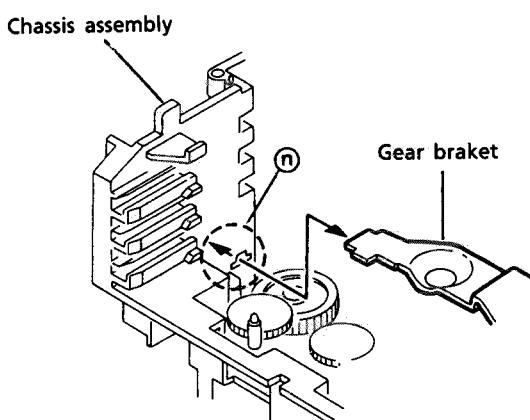

Fig. 38
3. Remove the gear bracket from the chassis ass'y's **N** securing top of the gear bracket. (See Fig. 38.)